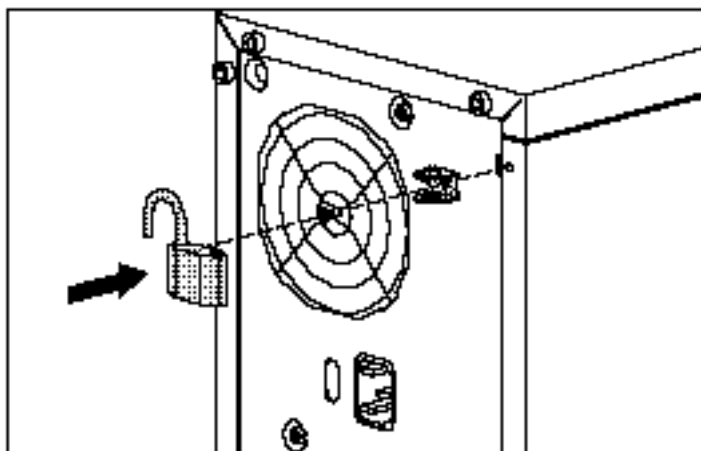

Figure 1-4. Securing the system with a user-supplied padlock
2. If desired, the side access panel can be locked (with a customer-supplied padlock) to prevent unauthorized access to system components. See Figure 1-4 for information.